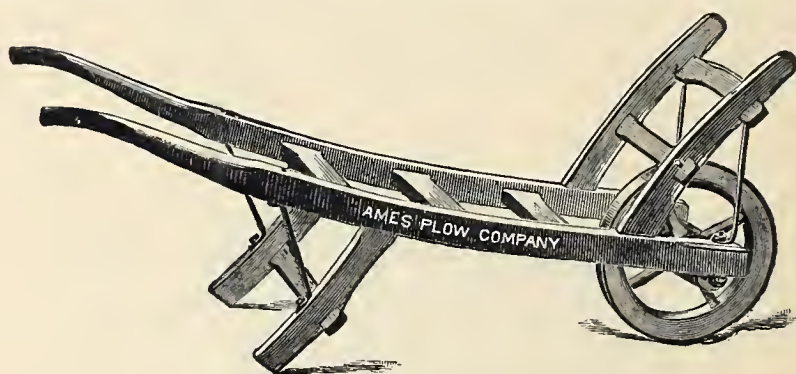

Fig. 532.—Cord-Wood Barrow.
*The Cord-Wood Barrow*, represented by *Fig. 532*, is in general use by parties handling quantities of cord-wood: it is strong and durable.